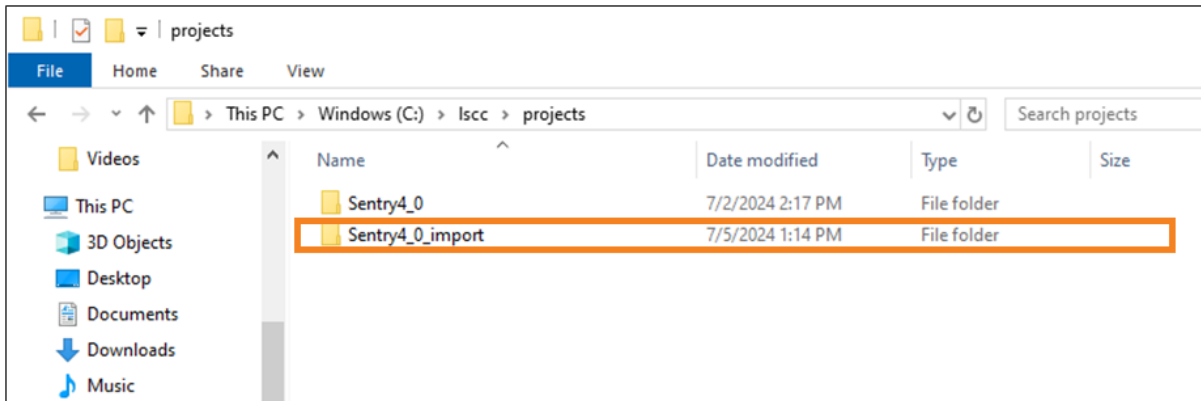

Figure 5.1. Project Directory for Importing SoC and C Projects
1. Create a project directory for the SoC and C projects locally on your computer (Figure 5.1).